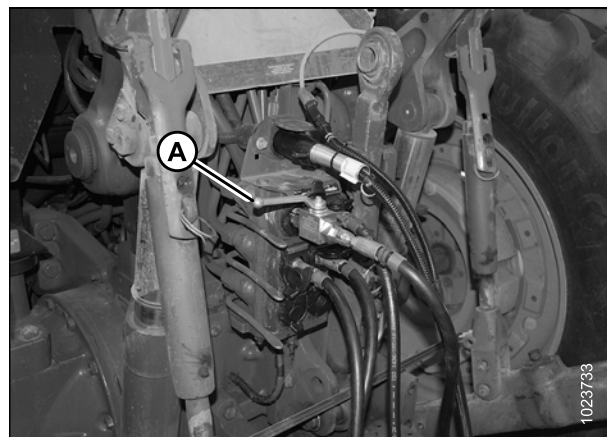
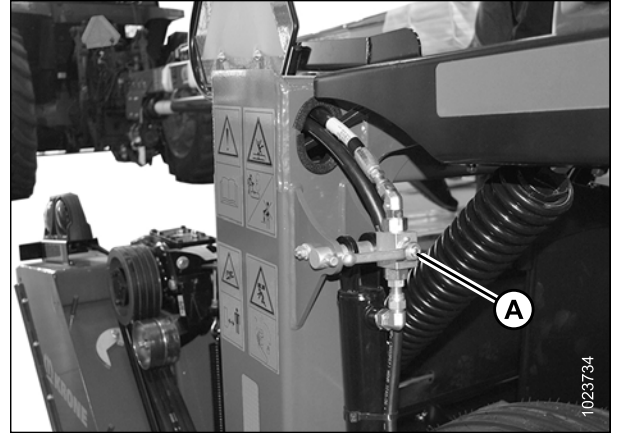

Figure 7.23: Steering Lock-Out Valve
Figure 7.24: Lift Cylinder Lock-Out Valve
11. Close the steering lock-out valve and the two lift cylinder lock-out valves by turning the handles to the closed position. Refer to Figure 7.23, page 198 and Figure 7.24, page 199.